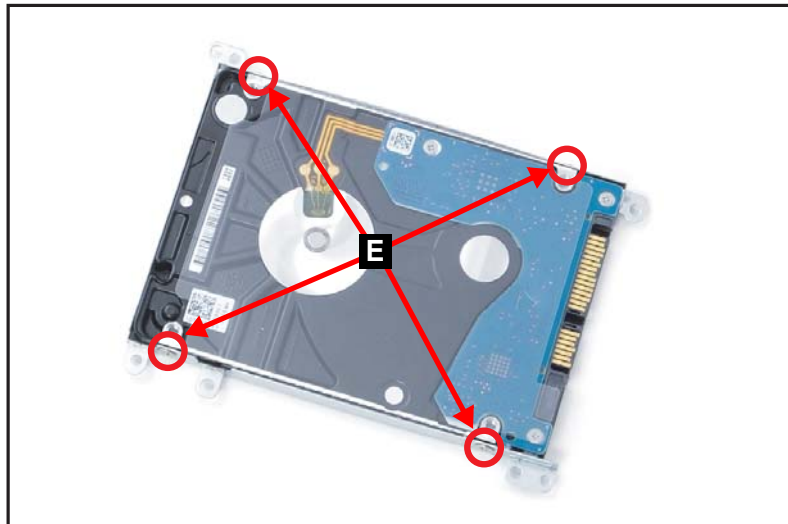

Figure 1-23. HDD Module Removal
5. Remove four (4) screws (E) from the HDD bracket (Figure 1-23).